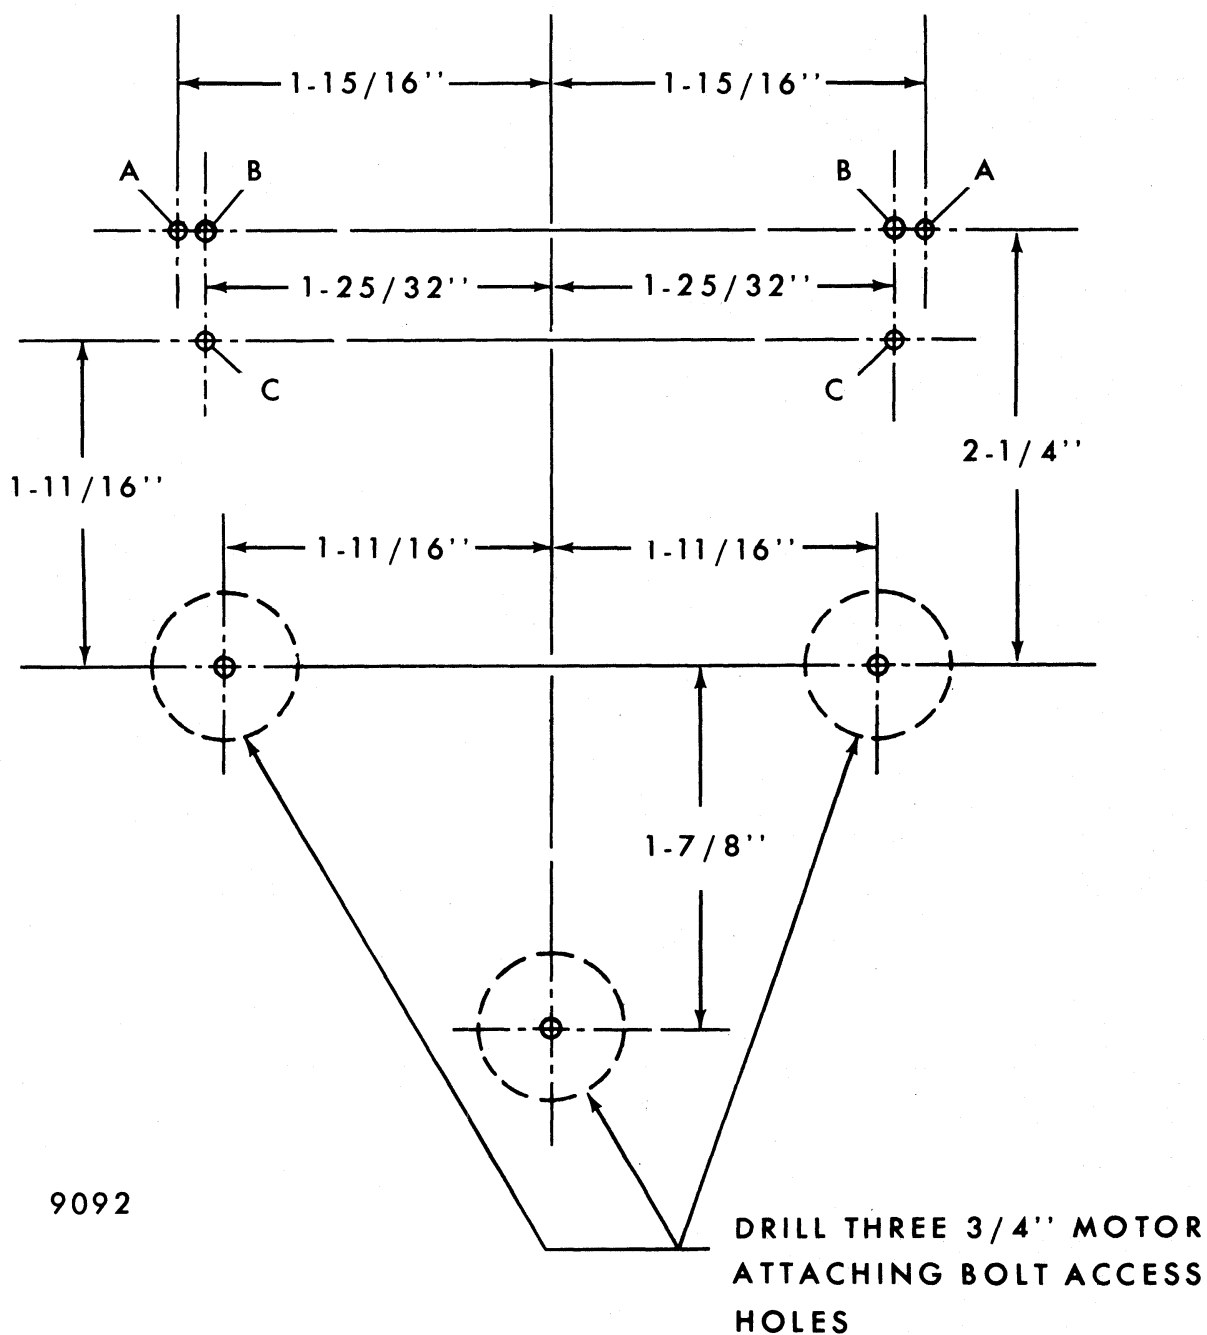

Fig. 5-40-Window Regulator Lower Attaching Rivet Reference Points for Locating Window Motor to Regulator Attaching Bolts
3. Refer to Figures 5-40, 5-41, 5-42, 5-43 and 5-44 and select the appropriate template for locating window motor to regulator attaching bolts by